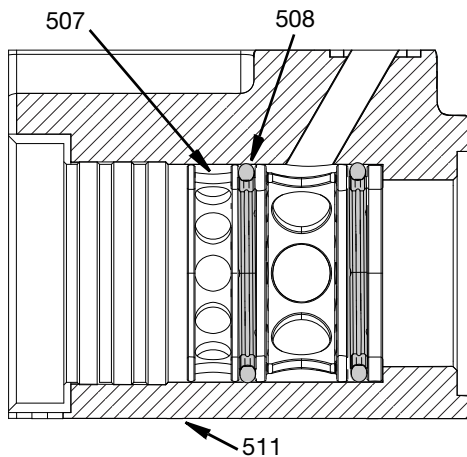

FIG. 23
5. Insert weepage distributor ring (507) into the bore of the swivel housing (511). It is recommended to use the **Material Seal Insertion/Removal Tool, 17V972** on page No. 38 and a soft faced mallet. Push the weepage distributor ring and rotary seal (508) fully against the material support ring (509). See FIG. 23.